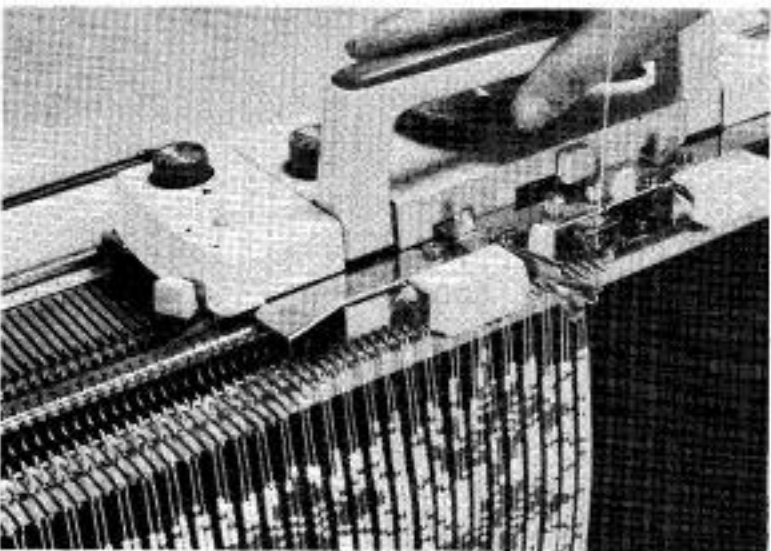

Fig. 165
- (c) With Carriage on the right and the leading Return Cam Lever at 2 bring forward all the working needles into position (E). Knit one row by moving the Carriage from right to left. (Fig. 165)